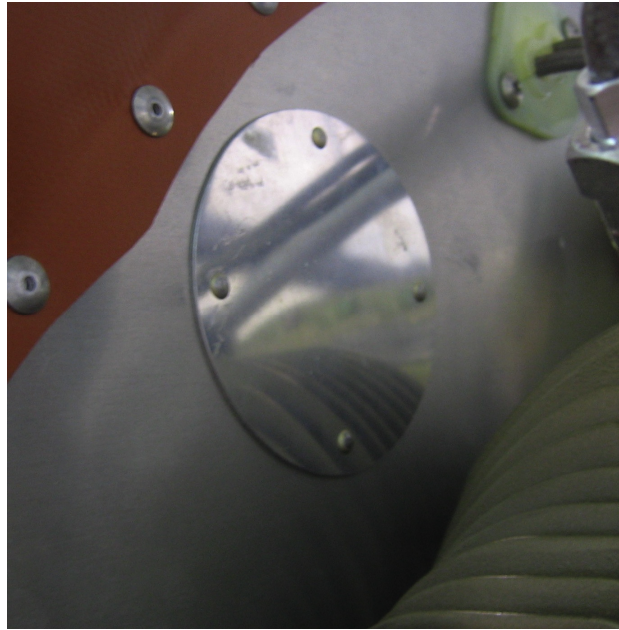

FIGURE 9: Cabin Heat Intake Flange Blank on Aft Baffle
11. Install Cabin Heat Intake Flange Blank (SC56017-001) on right-hand side of aft baffle. Use four (4) each screws (AN526C440R6), washers (AN960-4L), and Hi-Temp Lock Nuts (AN363-440). See Figure 9.